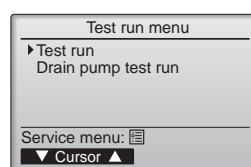

Fig. 7-4
- ④ Select "Test run" with the [F1] or [F2] button, and press the button. (Fig. 7-4)